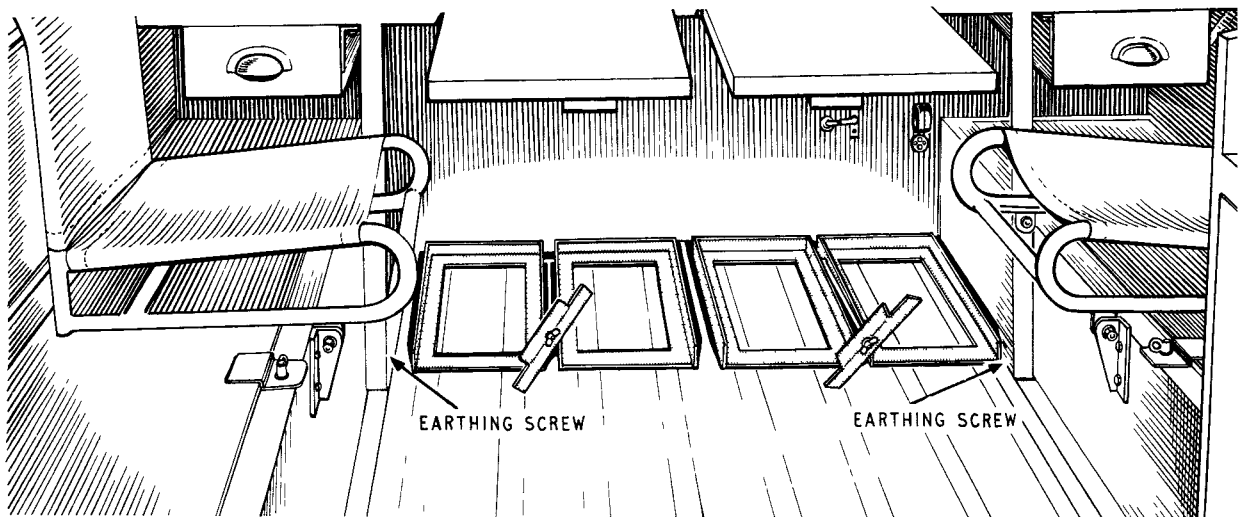

FIG. 50 TWO CARRIERS FOR FOUR BATTERIES FITTED UNDER THE TABLE
- (a) When one pair of batteries is installed, fit the battery earth lead to the bolt at the foot of the LH table support. See fig. 50.
- (b) When two pairs of batteries are installed, fit the second battery earth lead to the foot of the RH table support. See fig. 50.